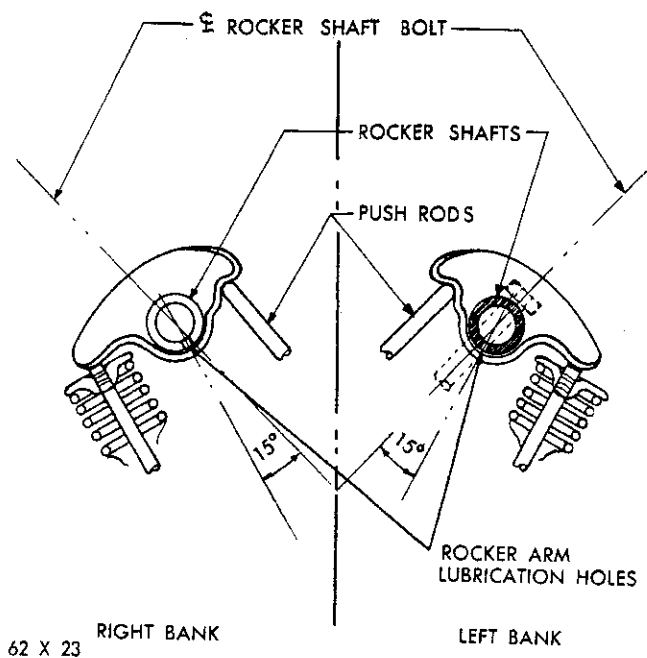

Fig. 9—Rocker Arm Lubrication Holes
- (2) Install the rocker shafts so that the  $\frac{3}{16}$  inch diameter rocker arm lubrication holes point downward into the rocker arm, so that the  $15^\circ$  angle of these holes points outward towards the valve end of the rocker arms, as shown in Figure 9. This is necessary to provide proper lubrication to the rocker assemblies.